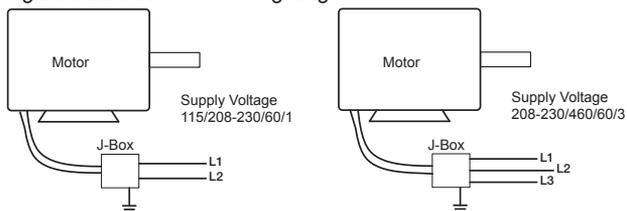

Figure 9
2. Wire motor for desired voltage per wiring diagram on motor. Refer to Figure 9 for connection wiring diagram.